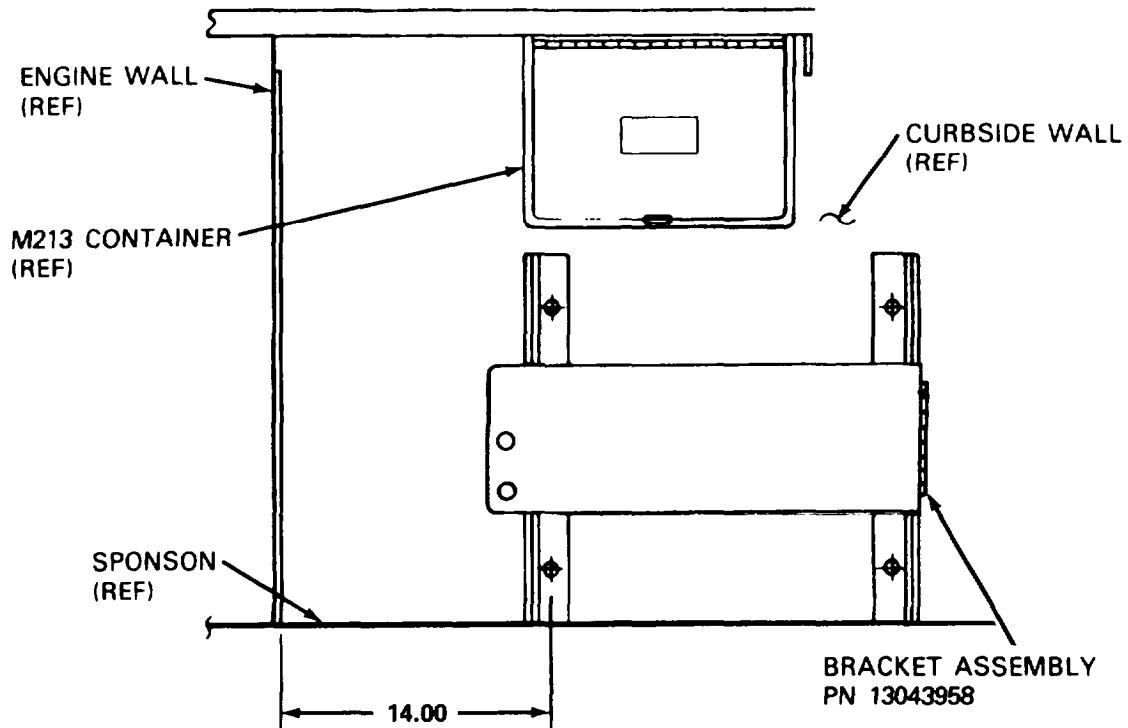

FIGURE3-1. BRACKET ASSEMBLY LOCATION
- a. Position the Bracket Assembly PN 13043958 against the forward curbside wall and on the sponson, 14.00 from the engine wall as shown in figure 3-1.